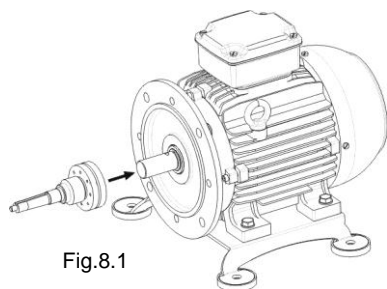
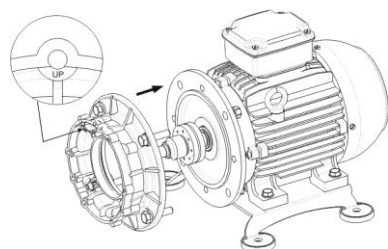

Fig.8.1
Fig.8.2
- mount the pump shaft (pos.11) complete with cone capling element (pos.13) and seager ring (pos.47) – fig.8.1
- Assemble the strainer (pos.15) together with the motor flange (pos. 15.A)
- Install the strainer assembly (strainer + flange) on the motor taking care to place the components as indicated in fig. 8.2